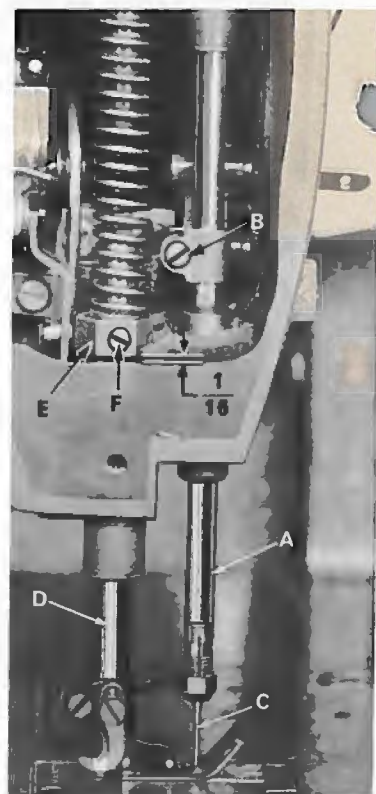
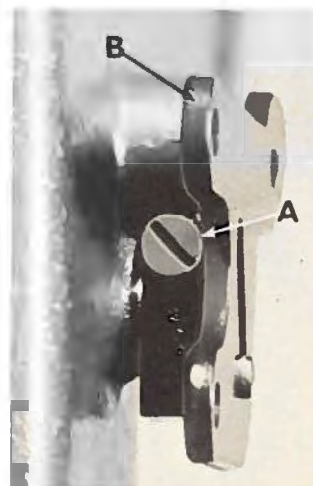

Fig. 4
Fig. 11
Align the needle bar (A, Fig. 4) with the proper test plate, using test pins No. PI40 A. See chart below. If test plate and test pins are not available, insert a new set of needles (Type and Size as required) and align the needle bar so that needles correspond with the vertical faces of the needle guard. To turn needle bar, loosen needle bar clamp screw (B, Fig. 4) and turn bar as required. Tighten screw.
The height of the needle (C, Fig. 4) is correct when the top of its eye is 1/64 inch below the underside of the looper, with the looper point flush with the left side of the needle. On Style 56500 N, the top of the needle eyes should be even with the underside of the looper when the looper point is flush with the left side of the needle. If adjustment is necessary, loosen screw (B) and move needle bar (A) up or down as required and retighten screw. On the two and three needle machines, care should be taken not to disturb the alignment of the needle bar when moving the needle bar either up or down.
If adjustment is needed, loosen tension release lever screw (A, Fig. 11), located at the back of the machine and move tension disc separator as required. Retighten screw. After adjustment there should be no binding at any point.
The height of the presser bar (D, Fig. 4) is set correctly if it is possible to remove the presser foot when the foot lifter lever (B, Fig. 11) is fully depressed. Also there should be approximately $1/16$ inch clearance between lower surface of the presser bar connection and guide (E, Fig. 4) and the bottom surface of head opening in the bed when the foot lifter lever is